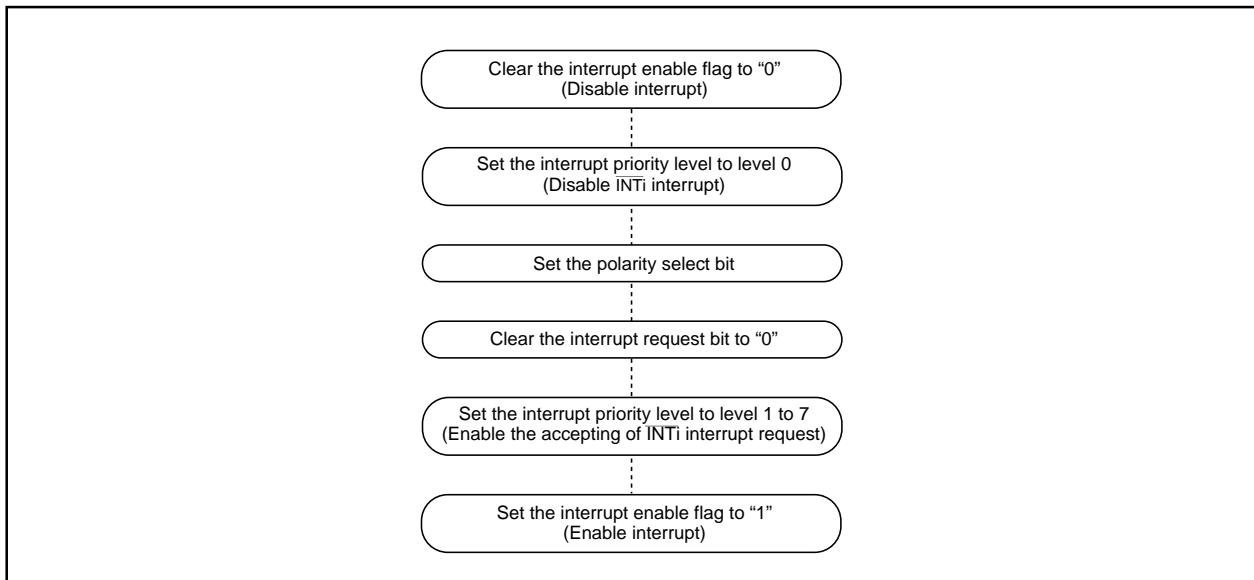

Figure 1.10.17. Switching condition of INT interrupt request
- When the polarity of the INT0 to INT5 pins is changed, the interrupt request bit is sometimes set to "1". After changing the polarity, set the interrupt request bit to "0". Figure 1.10.17 shows the procedure for changing the INT interrupt generate factor.